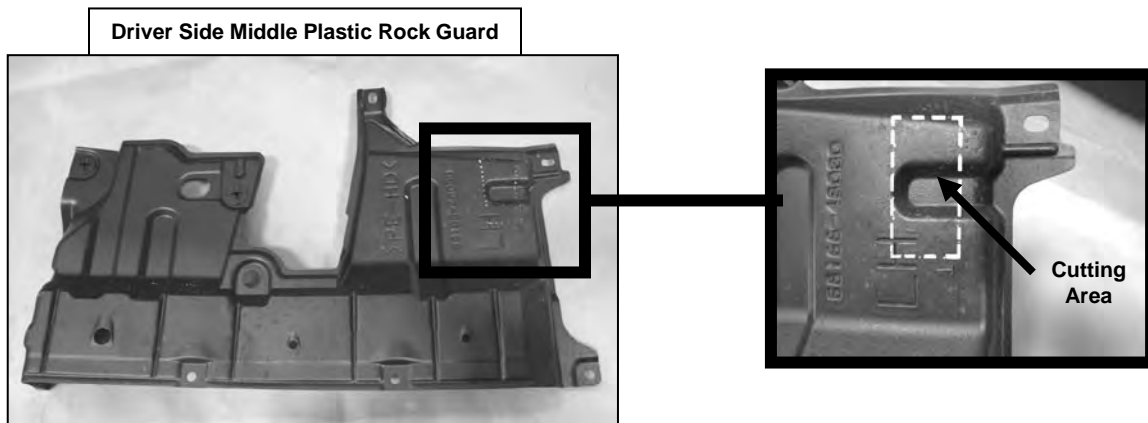

Fig 1
2. From underside of vehicle, remove front and middle section of the driver side plastic rock guard (**Figure 1 & 2**).
3. Place the plastic rock guard on a clean working area. Use a hack saw to cut out an opening 2" x 3 1/2" on the middle rock guard as marked in **Figure 1**. Cut a 1 1/2" x 1 1/2" opening in the front guard as marked in **Figure 1 & 2**.